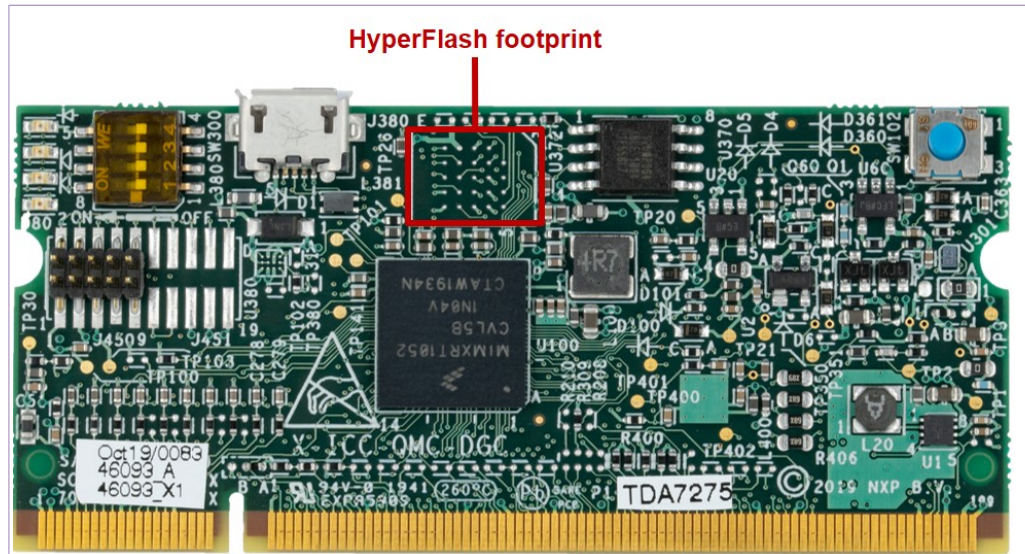

Figure 12. HyperFlash NOR Flash memory footprint on PCB
2. The footprint to connect a HyperFlash NOR Flash memory as shown in Figure 12. The HyperFLASH is a standard NOR flash with high-speed SPI interface (12 pins).